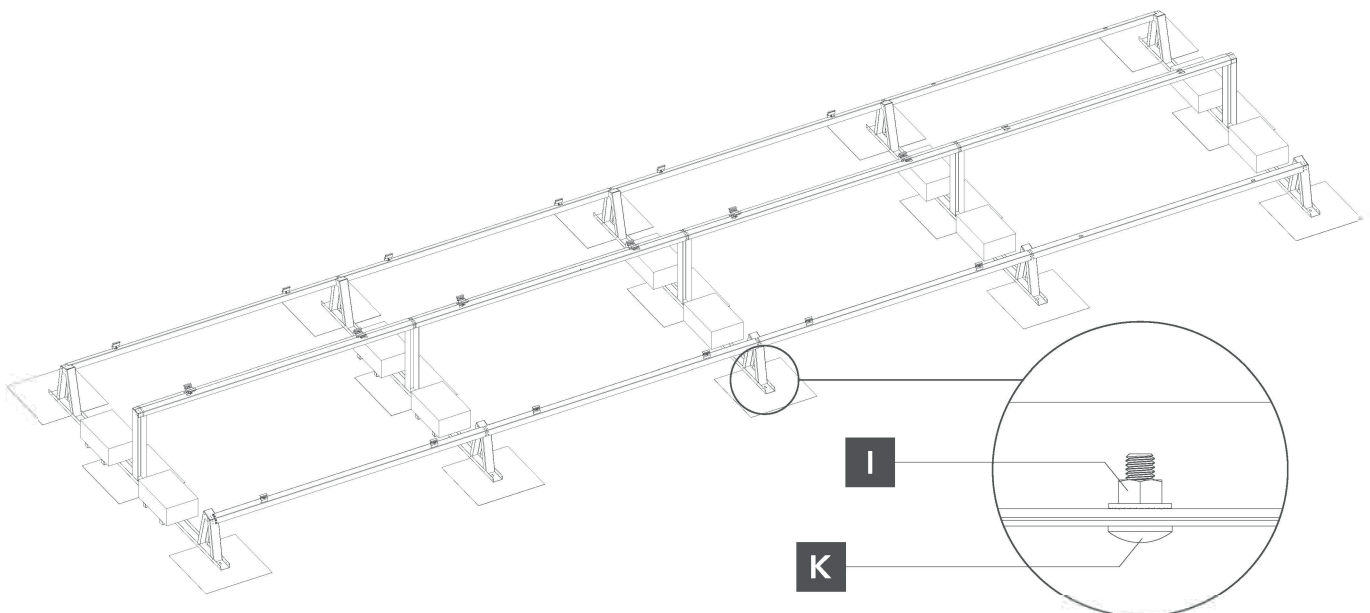

Fig. 5. mounting the mounting triangle on the mounting bar
- 4** Mounting triangles are to be fastened: screwed to the locking screws and to the flange nut in (Fig. 5).